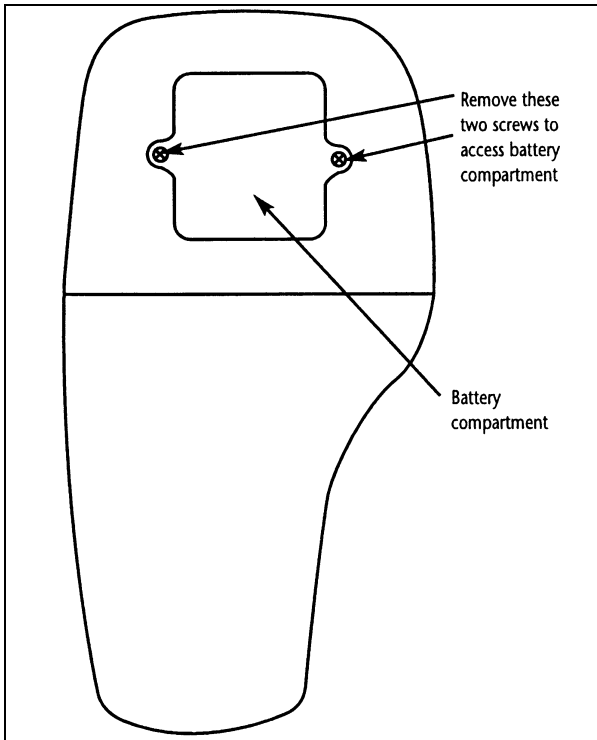

Figure 3 - Back Panel of Meter Showing Meter Compartment
- 1 Use a Philips screwdriver to remove the two screws holding the battery cover. See Figure 3 below.